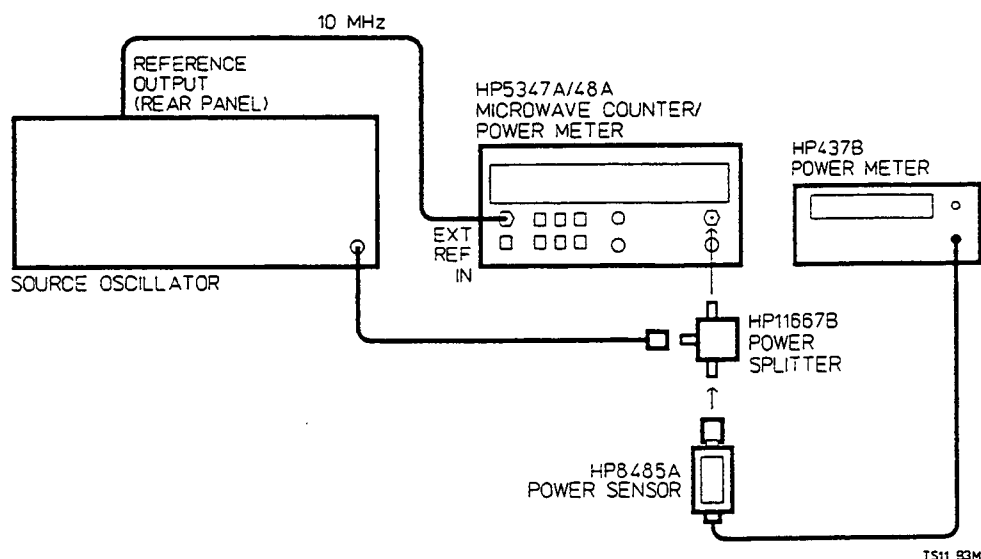
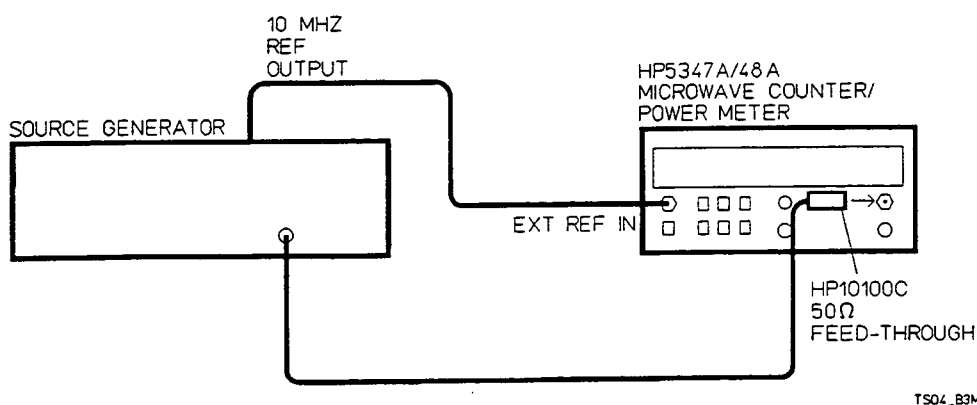

Figure 4-5. INPUT 2, 50 MHz-525 MHz Test Setup
Figure 4-6. INPUT 2, 10 Hz-10 MHz Test Setup
Description: This test is in two parts to check both the high frequency measuring capability of the 50 Ω input impedance and the low frequency measuring capability of the 1 M Ω input impedance of INPUT 2. In Part I, the HP 5347A/48A is set to the 10 MHz-525 MHz range, 500 impedance, and a 25 mV rms (-19.3 dBm) signal is applied to INPUT 2. The source oscillator is set to selected frequencies and the HP 5347A/48A is checked for proper counting. Next, the HP 5347A/48A 1 M Ω impedance for the lower frequency range is checked. Since the same test setup in Figure 4-5 with the addition of a 50 Ω feedthrough is used to perform the 80 MHz check, the 80 MHz check is performed before the 10 Hz-50 MHz check. A 25 mVrms (-19.3 dBm) 80 MHz signal is applied to INPUT 2 through a 50 Ω feedthrough, and the HP 5347A/48A is checked for proper counting. In Part II, the test setup is changed to Figure 4-6 to test the 10 Hz-50 MHz range.
1. Connect the equipment as shown in Figure 4-5.
1. Using the test setup in *Figure 4-5*, connect the HP 11667B to INPUT 2 of the HP 5347A/48A via a 50 Ω feedthrough (HP 10100C).
1. Connect the equipment as shown in *Figure 4-6*.